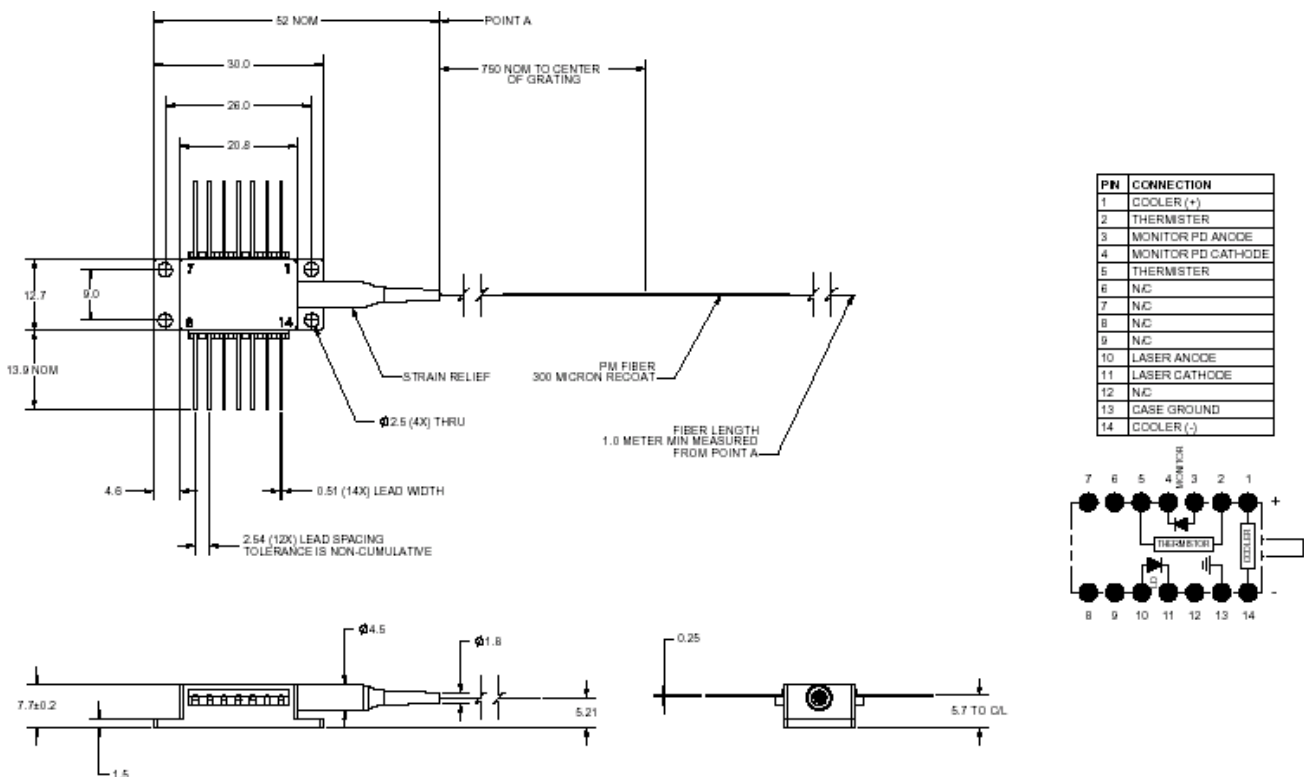

Figure 1. Example Mechanical and Electrical Schematic for a High Power Pump Module
- Make sure that the electrical circuit connected to the pump module has the correct orientation for mounting the 14-pin butterfly package - as the pump module is symmetrical, it is possible to connect it backwards by 180-degrees (see Figure 1 for an example mechanical and electrical schematic).
When mounting the 14-pin butterfly package, ensure that the butterfly pins have the right orientation (do not turn module by 180 degrees), see Figure 1 for module mechanical and electrical schematic. Follow all integrated circuit standard practices including ESD prevention measures.